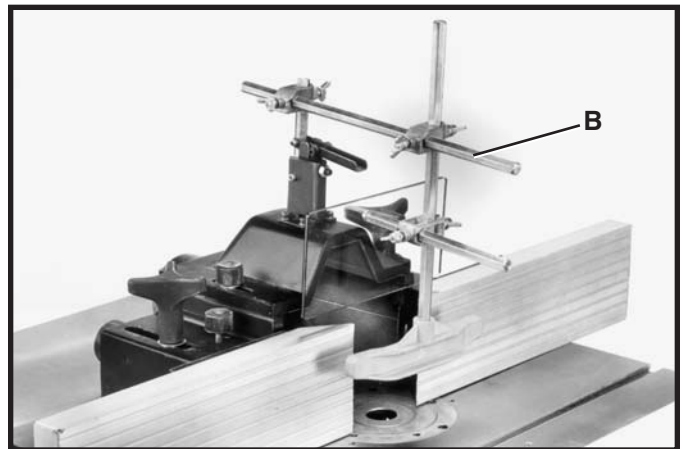

Fig. 26
3. Assemble holddown/clear plastic guard assembly to hex rod (B) as shown in Fig. 26.